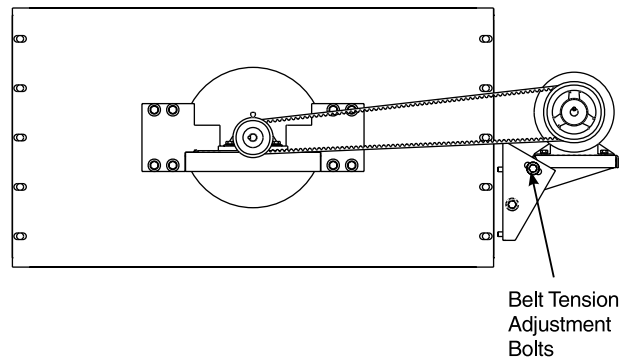

Figure 4-42.
3. When replacing the belt, loosen the tension adjustment bolts (Figure 4-42) on the motor mounting bracket. Next, pull back on the motor. Retighten adjustment bolts. Do not overtighten because the fan bearings may be damaged.